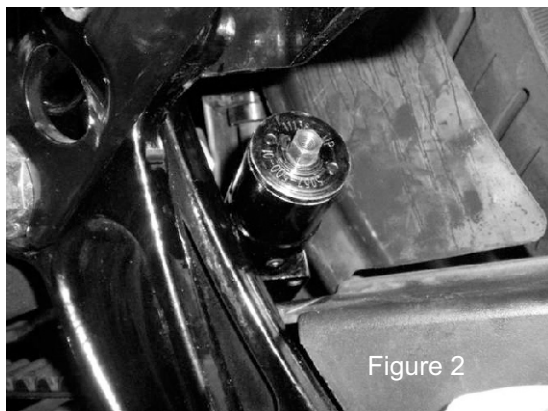

Figure 2
- As you mount the RAP equipped shock, feed the RAP adjuster up and out the left side of the bike through the space between the swing-arm and fender of the bike as shown (fig.2).